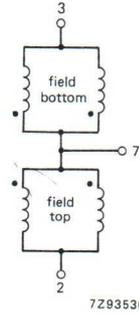

Fig. 2b Field coils.
**Field deflection coils**, series connected (Fig. 2b) terminals 2 and 3